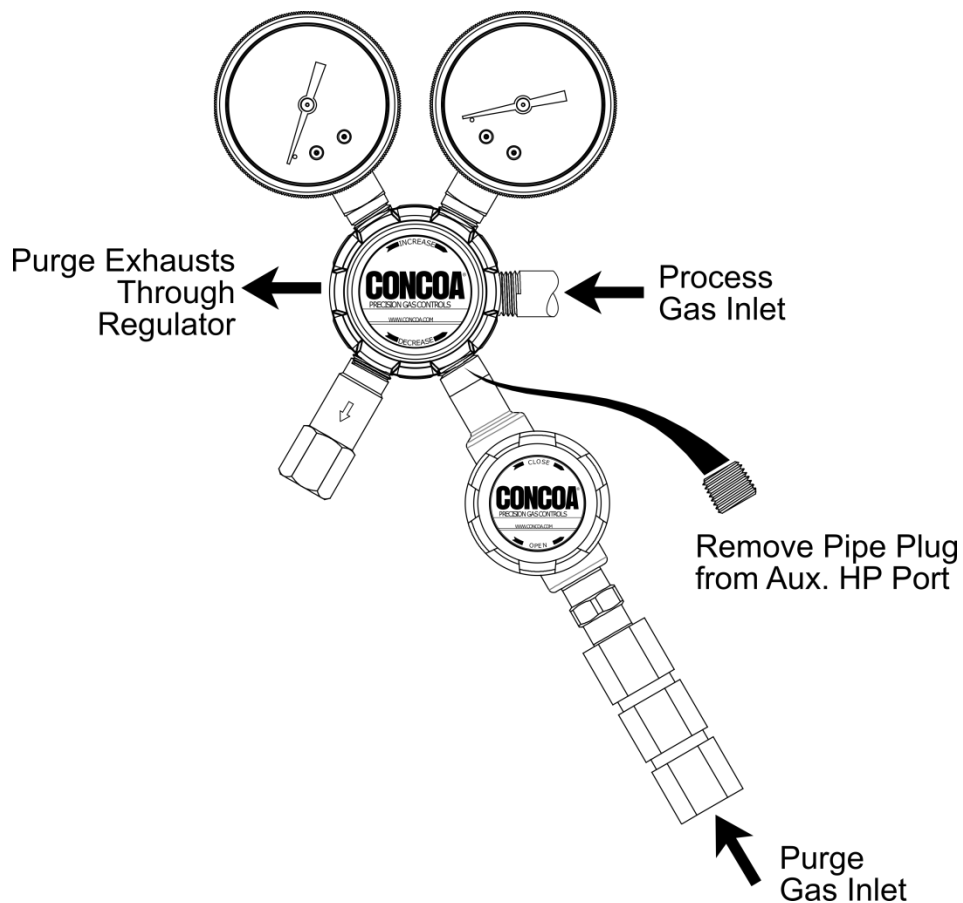

Figure 4. CONCOA Straight Purge
1. If necessary, remove the pipe plug from the regulator's auxiliary high pressure port (typically marked HP or HI). Install the straight purge into the open port as shown in Fig. 4.